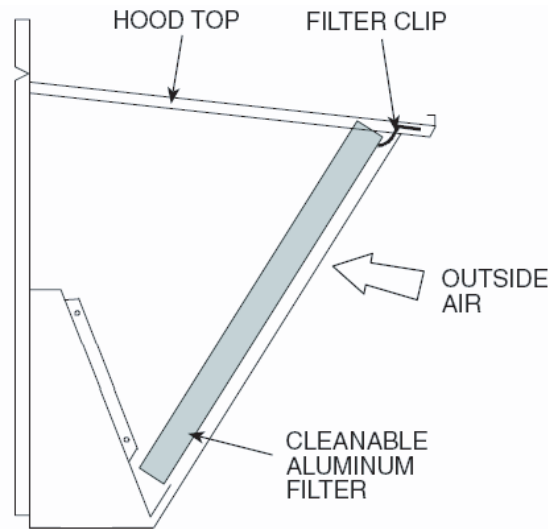

Fig. 4 - Filter Installation
10. Install the provided aluminum filter into the hood. Lock in place with top filter clips. (See Fig. 4.)